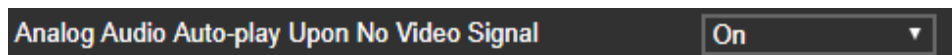

Figure 14: TP-594Rxx Video and Audio Page – Audio Auto-play Set to On
4. Under Video Settings (Figure 14):